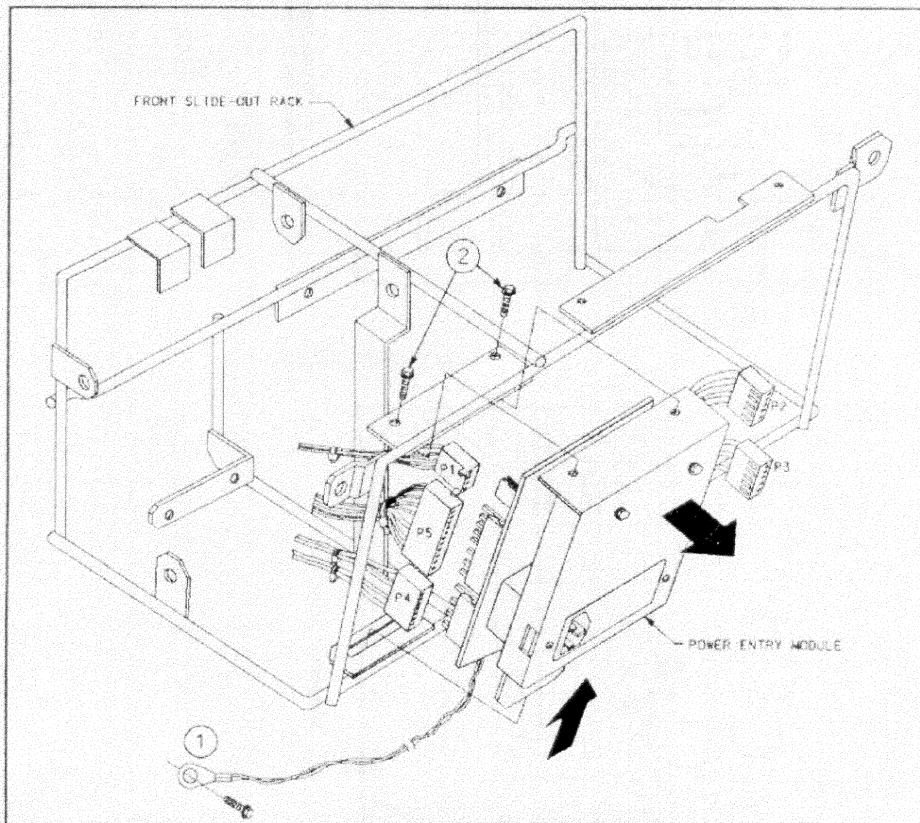

FIGURE 8-1. Power Entry Module Removal
b) Trace the yellow/green grounding wire from the Power Entry Module to the grounding point on the projector chassis. See Figure 8-1 (item 1). Disconnect the grounding wire.
d) Remove the two hex head screws (item 2) as shown.
e) Remove the Power Entry Module from the front slide-out rack as shown by the arrows in Figure 8-1.